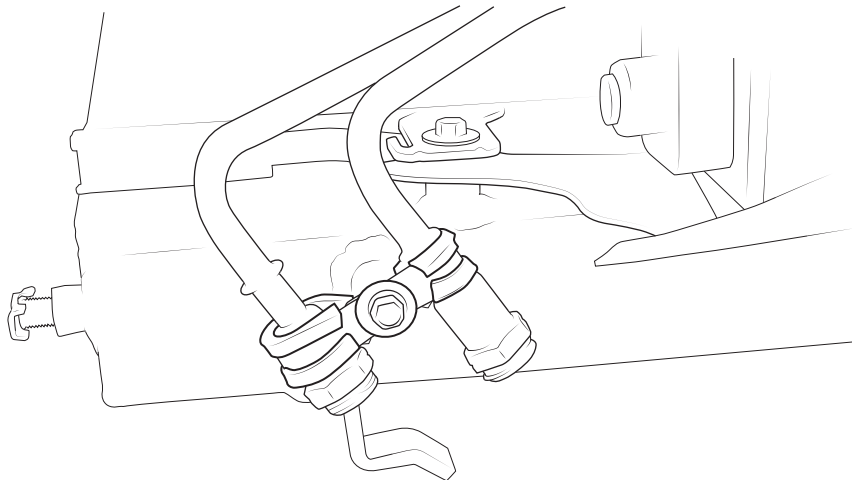

Figure 33
7. Install the AC condenser/transmission oil cooler/steering cooler assembly onto the supplied AEV Hemi radiator using the factory hardware and supplied p-clips, and petcock (fig 33).